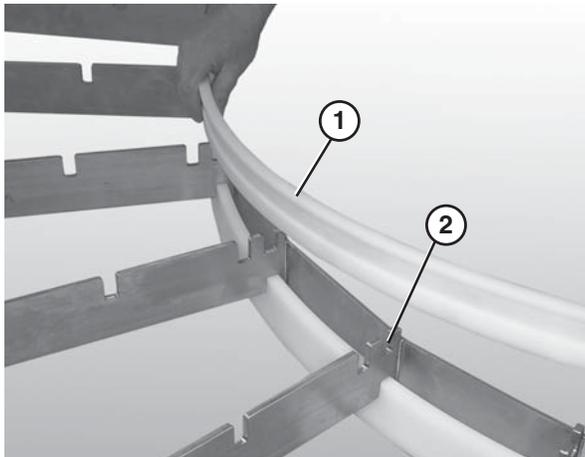

Figure 28
1. Insert inside curve top wear strip (Figure 28, item 1) into the innermost slot (Figure 28, item 2) on the inside of the frame.